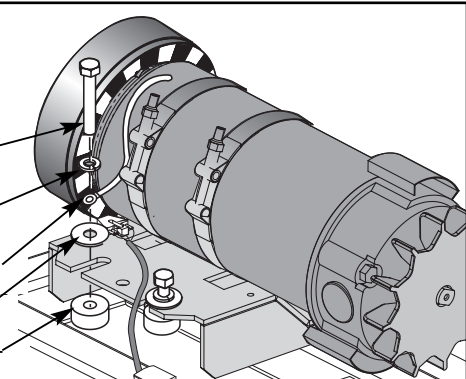

Figure 17
- B. Place the flat washer on the motor saddle followed by the ground terminal, split washer and screw. See Figure 17.